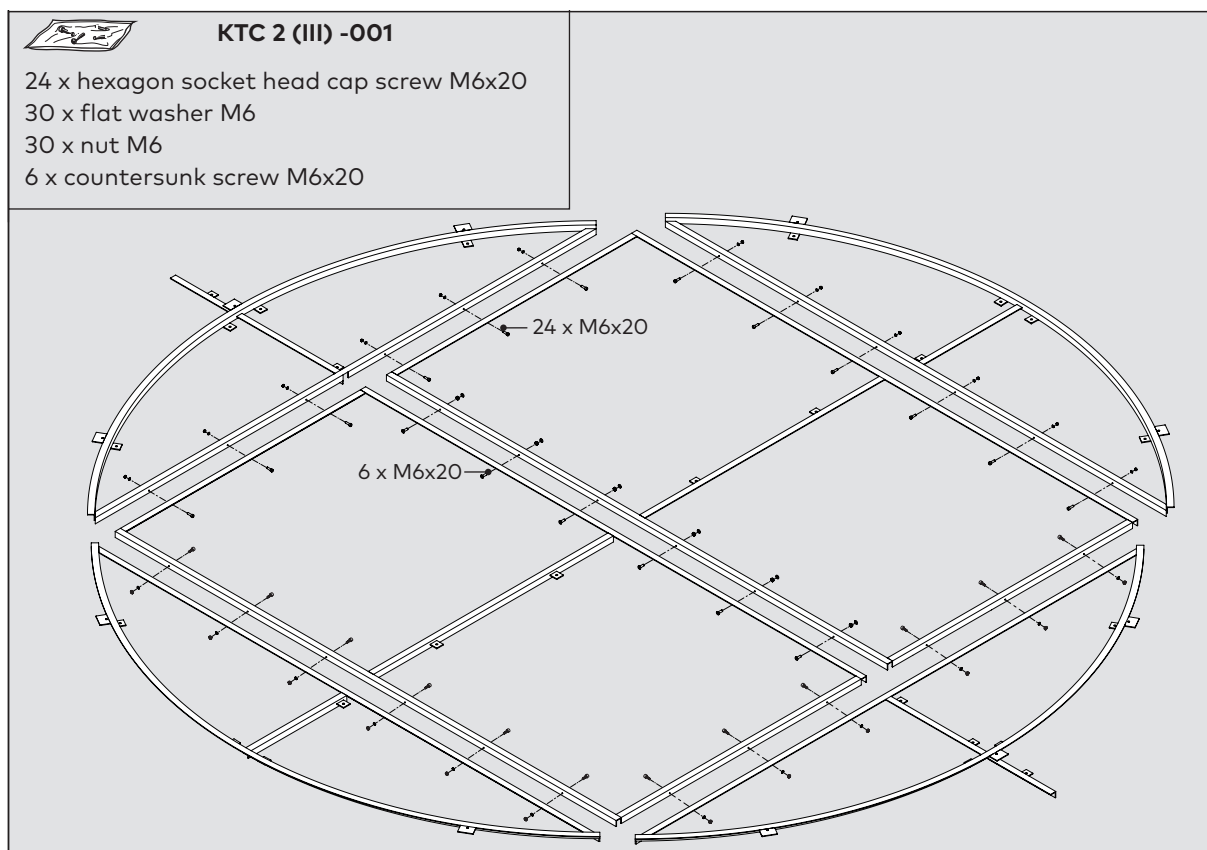

Fig. 8 Floor ring parts
1. Screw together floor ring parts (Fig. 8) at the marked points.